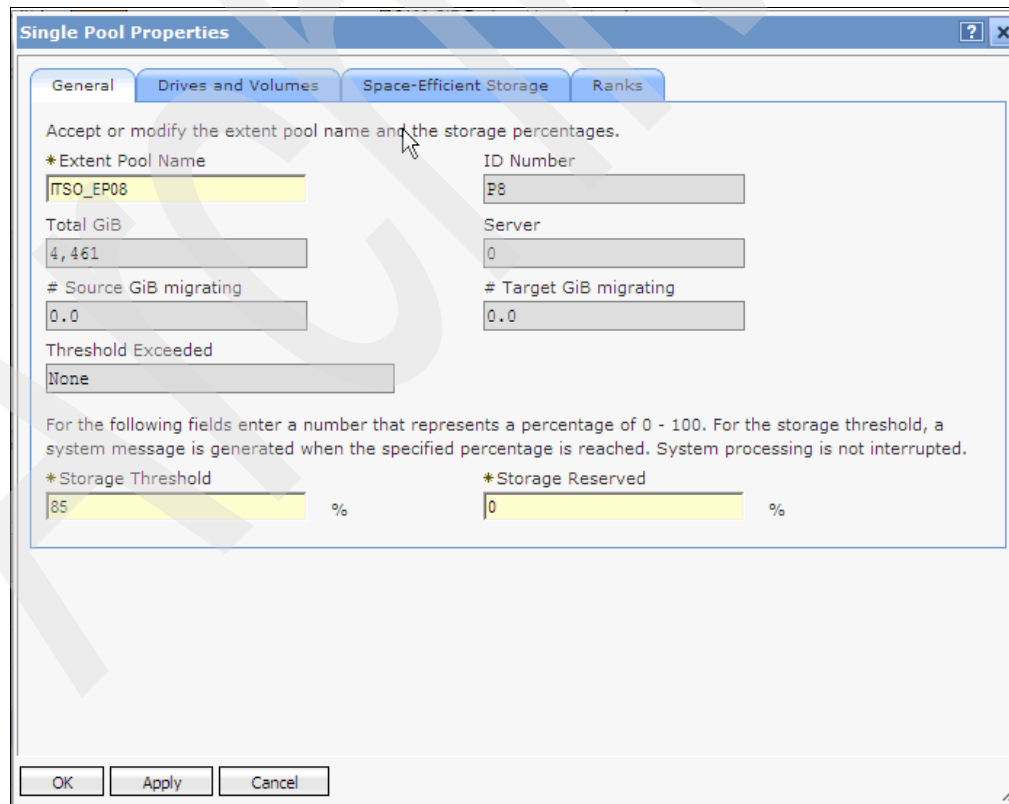

Figure 13-45 Single Pool Properties: General tab
- The Single Pool properties window opens (Figure 13-45). Basic Extent Pool information is provided here as well as volume relocation related information. You can, if necessary, change the Extent Pool Name, Storage Threshold, and Storage Reserved values and select **Apply** to commit all the changes.